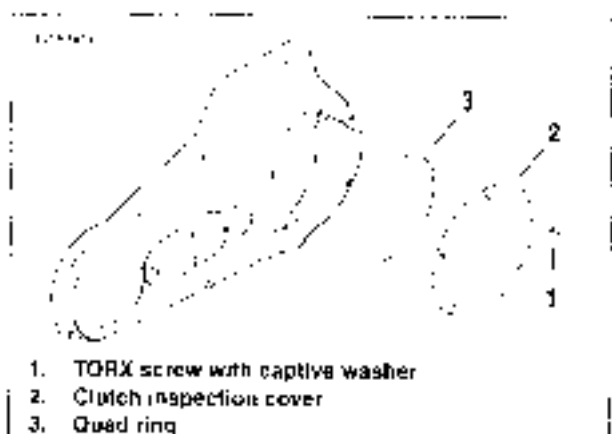

Figure 1-25. Clutch Cover
3. See Figure 1-25. Remove two TORX screws with captive washers (1) to detach clutch inspection cover (2) from primary chaincase cover.
4. Remove the quad ring (3) from the groove in the chaincase cover. Wipe oil from quad ring groove in chaincase cover and mixing surface.